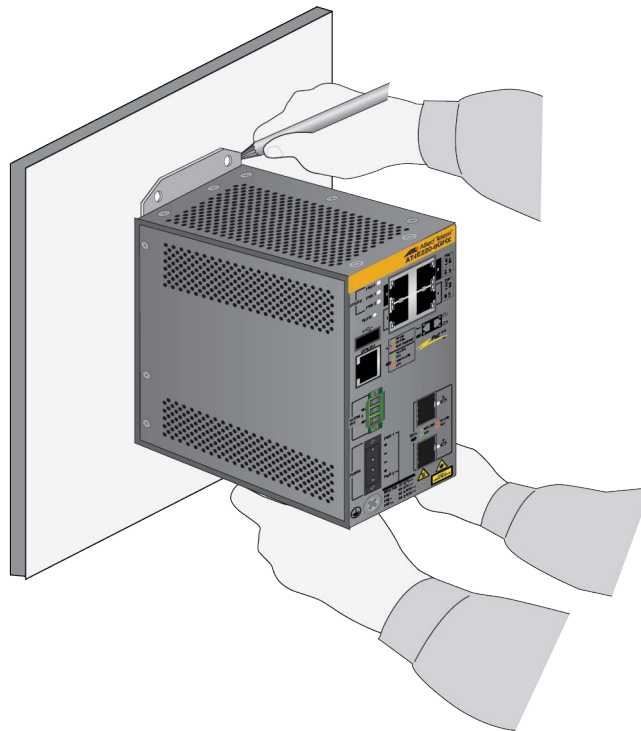

Figure 23. Marking the Locations of the Bracket Holes on a Concrete Wall
5. Have a person hold the switch on the concrete wall at the selected location for the device while you use a pencil or pen to mark the wall with the locations of the four screw holes in the two wall brackets. Refer to Figure 23.
- The switch must be oriented as shown in Figure 23. You may not install the switch horizontally or upside-down.